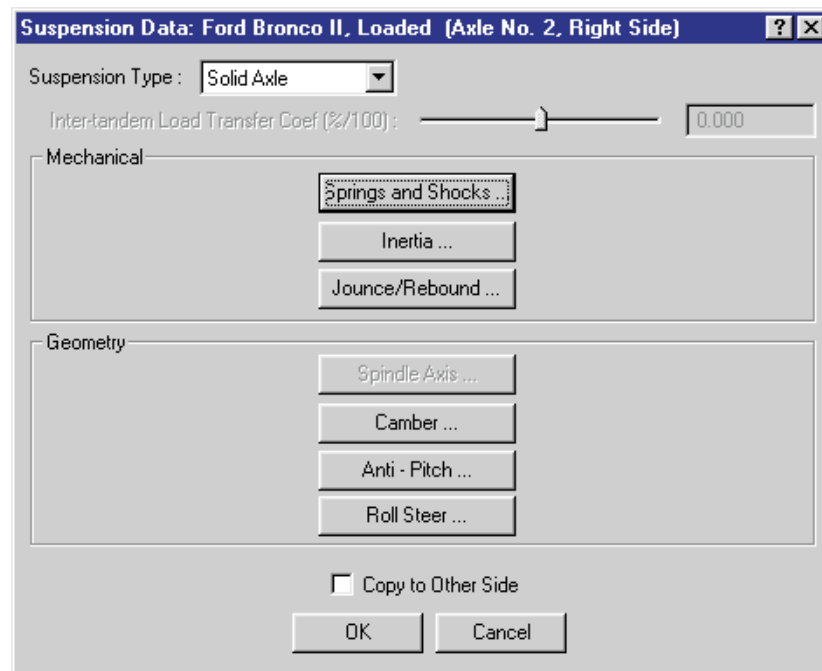

Figure 5-4 Vehicle Suspension Information dialog, used for selecting various suspension data groups for editing.
- Choose *Suspension*. The Suspension Information dialog for the selected wheel is displayed (see Figure 5-4).